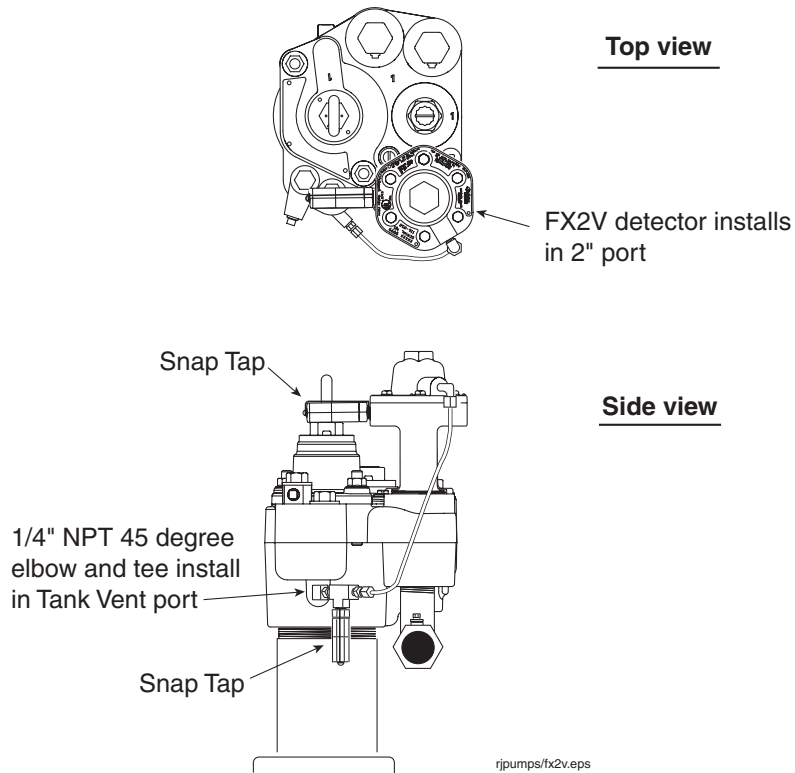

Figure 3. Installing FX2V in The Red Jacket pump
- a. Remove 1/4-inch pipe plug from tank test port (on 6-inch Big-Flo applications, remove the 1/4-inch pipe plug from the riser/flange assembly, for The Red Jacket pumps see Figure 3).